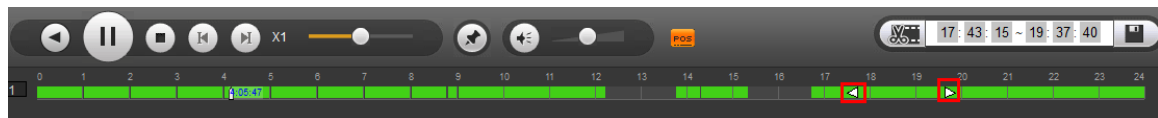

Figure 5-175
Step 2 Click  and there are two ways for you to set start time and end time See Figure 5-175.